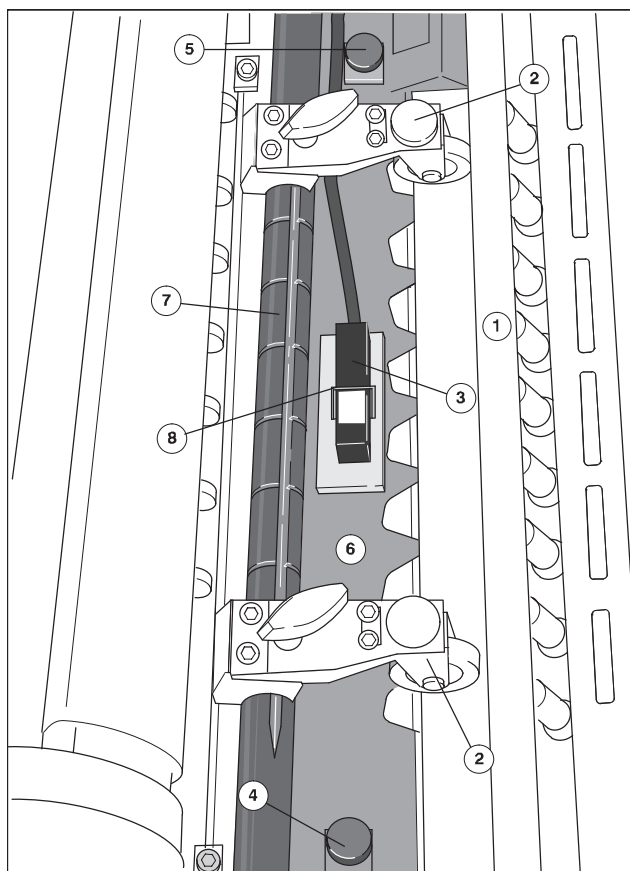

Fig. 33 Inserting the guide plate with brush rollers
1. Rotate the press with the crank handle until the sucker bar (Fig. 33/1) is all the way down.
2. Set both forwarding rollers (Fig. 33/2) fully to the outside up to the side frame on D.S.
3. Remove the sheet monitor (Fig. 33/3).
4. Completely unscrew the knurled screws (Fig. 33/4 and 33/5).
5. Pull out the guide plate (Fig. 33/6) under the forwarding roller axle (Fig. 33/7).
6. Compress and remove the clamp (Fig. 33/8) for the sheet monitor.